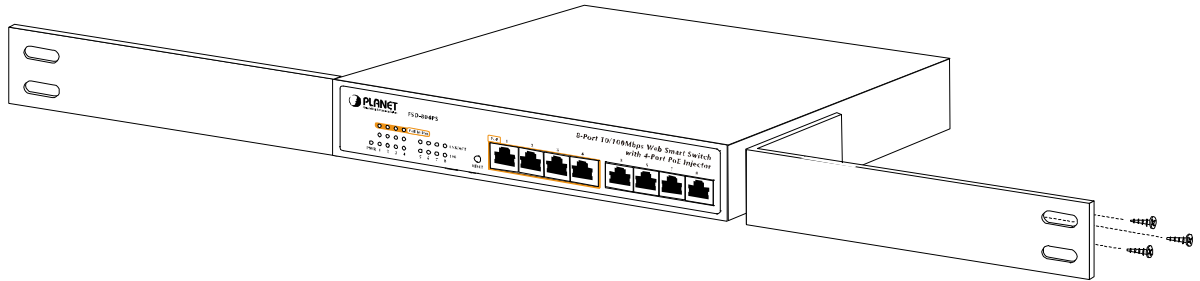

Figure 2-4 Attaching the brackets to the Switch.
**Step2:** Attach a rack-mount bracket to each side of the Switch with supplied screws attached to the package. Figure 2-4 shows how to attach brackets to one side of the Switch.